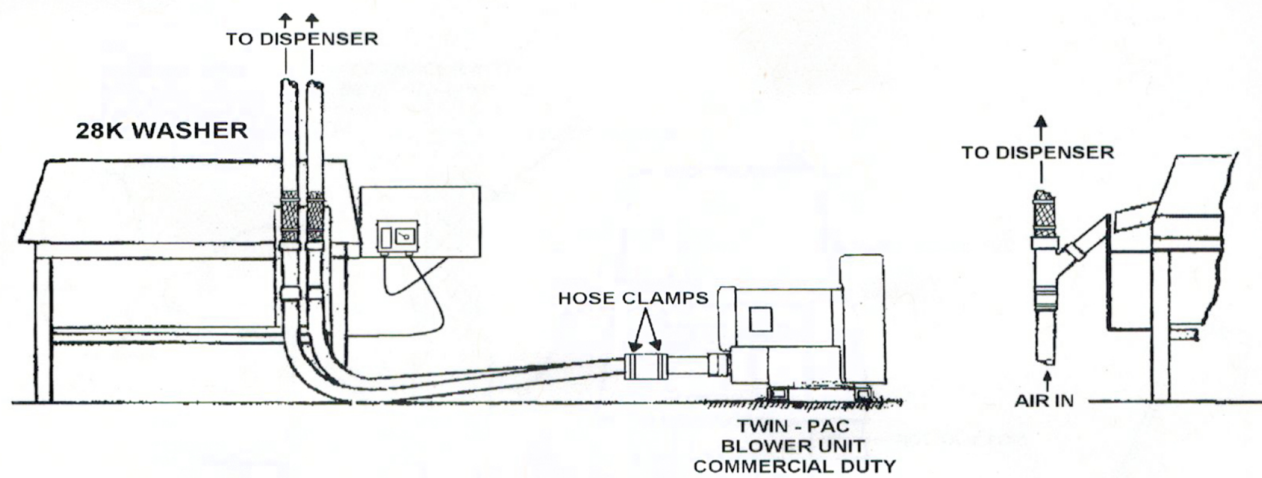
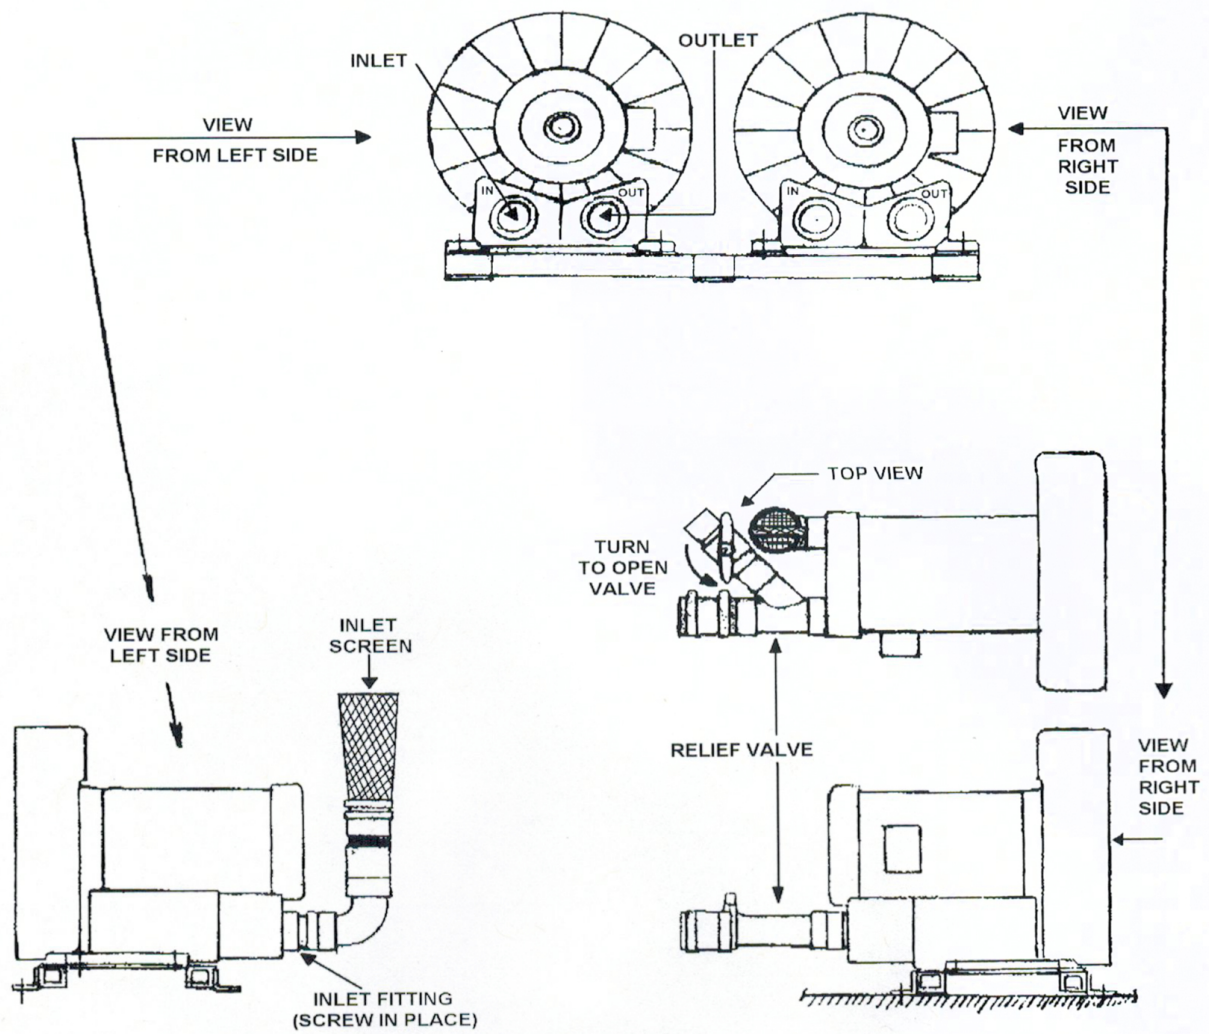

Figure 3
Figure 4
3. Position the Commercial Duty Ball Shooter blowers in a clean and dry area away from the washer, as shown in Figure 3. Unscrew the screen filter from the elbow fitting. Screw the elbow fitting into the inlet ports of the blower motors. Screw the screen fitting into the top of the inlet elbow. Screw the outlet assemblies, with relief valves, into the outlet ports of the blower motors (See figure 4). Mount the two blower motors onto the mounting frame. Secure the mounting frame to the floor. Insert the ends of the hoses into the rubber couplers and tighten the hose clamps. Fasten the other ends of the hoses to the lower end of the black “Y” pipes and tighten the hose clamps (See Figure 3).